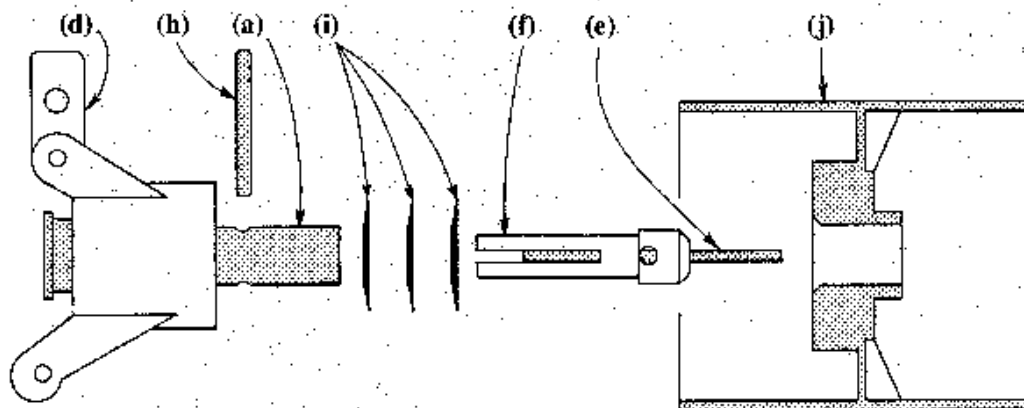

fig. 4
STEP 5 When you have the locking pins moving freely, slip the insert (f) back into the axle (a), again aligning the 1/8" holes in the axle, insert and spring. Now slip as many of the spring washers (i) on the axle as you can (fig. 4) and still be able to install the dowel pin (h). It will probably accept one or two washers. Make sure the spring washers (i) go on in the direction shown, with the small side of the washer touching the bearing (d). Then, very carefully tap the dowel pin through the 1/8" hole of the axle, insert and spring.